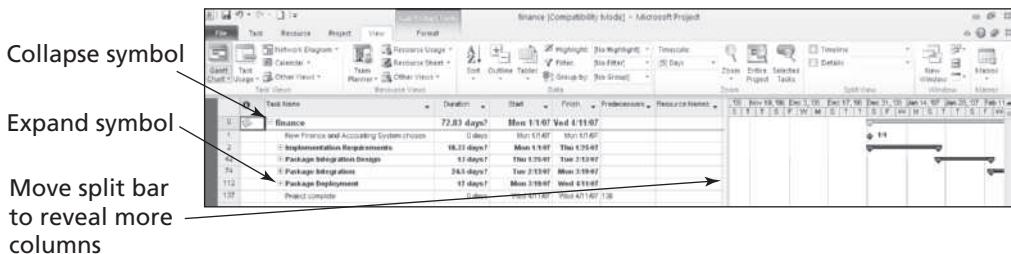

FIGURE A-8 Adjusting screen elements
6. *Move the split bar to reveal more Entry table columns.* Move the split bar to the right to reveal the Resource Names column. Your screen should resemble Figure A-8.